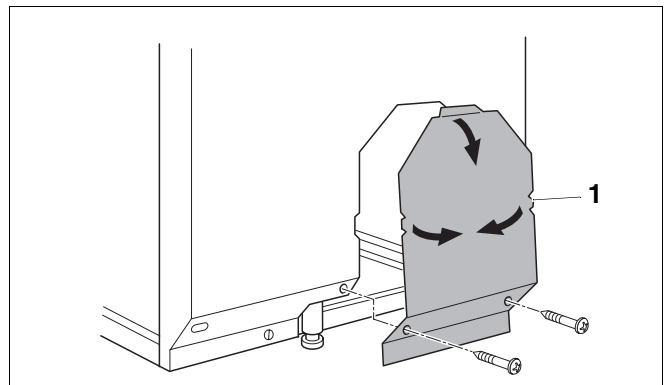

Fig. 12 Removing fillet
On a flue gas header which has been turned through 90°, the fillet must be removed from the right or left-hand side panel, to make room for the flue outlet (Fig. 12).
- Pull out the upper and left and right fillet tabs, and remove fillet (Fig. 12).